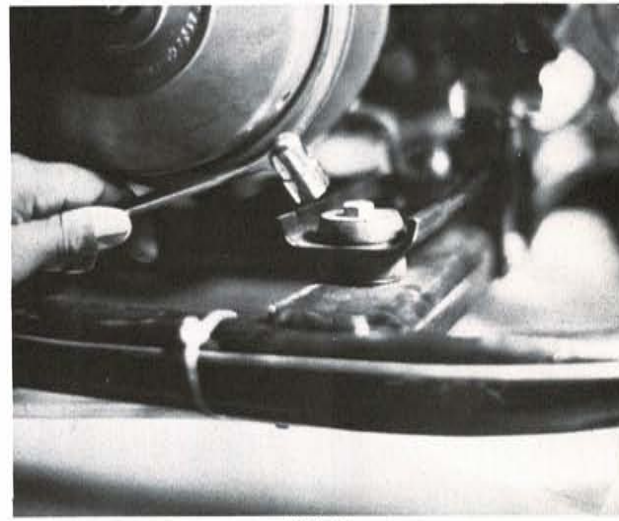

FIG. 5
8. Remove engine mounting bolts, slide T.C. belt over drive converter. (Fig. 5)